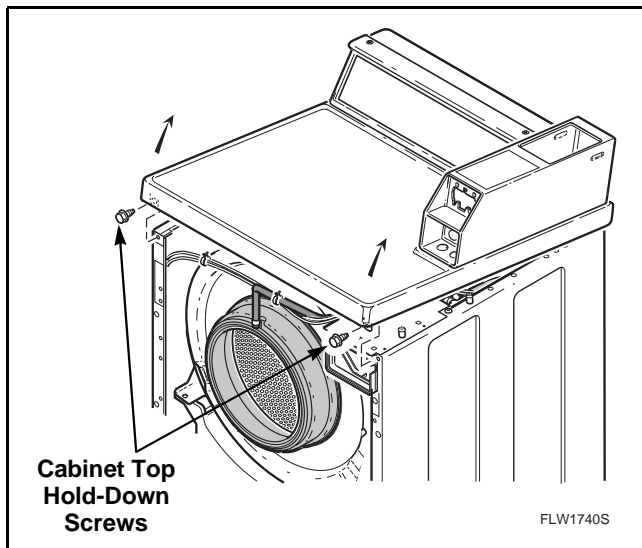

Figure 28
- Remove two screws holding front of cabinet top to front flange of side panels. Refer to *Figure 28*.